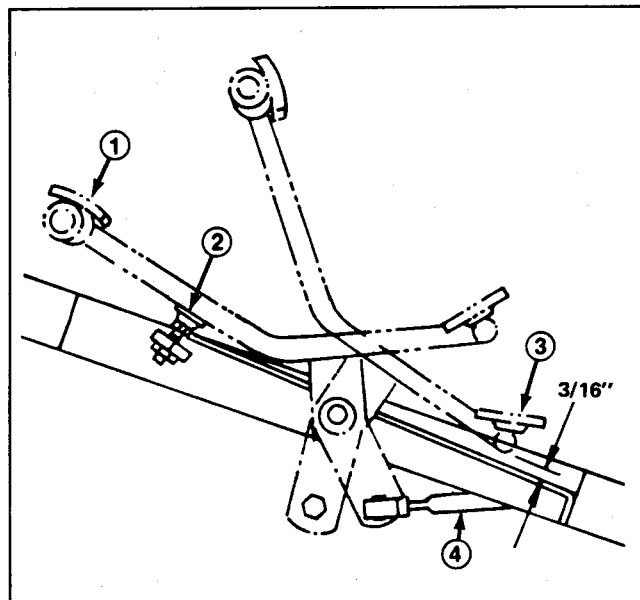

Figure 14
2. Check distance between bottom of pedal and footrest (Fig. 14). Distance should be approximately 3/16 in. If distance is greater or less than 3/16 in. dimension, an adjustment to the traction control rod is required.
2. Pedal should contact pedal stop. If pedal contacts stop before spool is completely out, or if pedal does not make contact with stop, an adjustment to the stop is necessary (Fig. 14).